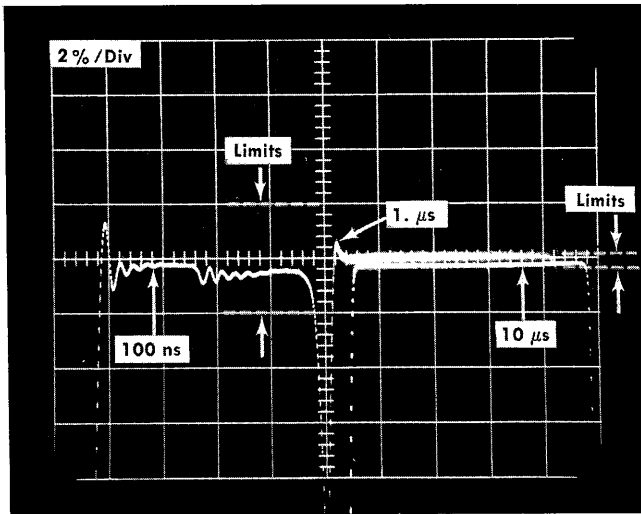

Fig. 5-2. Displays showing Amplitude checks at Square Wave Period settings.
n. Set the Trig Source to Ext and set the Trigger Level control for a stable display. Observe the upper portion of the square wave within ±5 mV of the center of the graticule; step (l) set the vertical position (see Fig. 5-2).
r. Check—Upper portion of the waveform is within 20 mV after the first 20 ns; see Fig. 5-2.